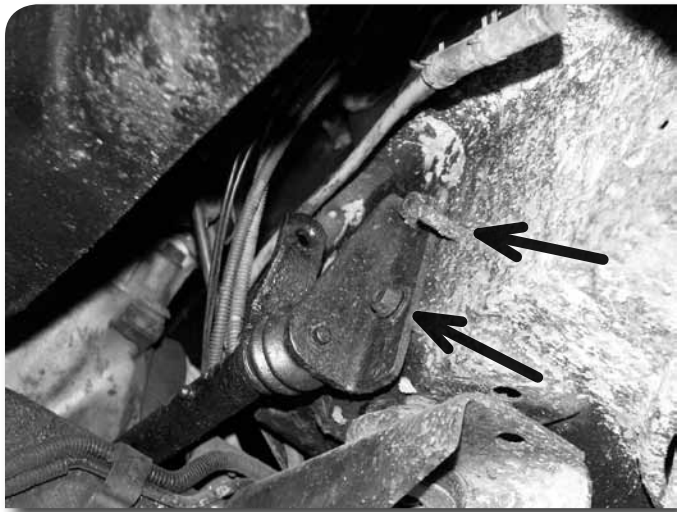

Figure 3
6. Remove and retain nuts holding clutch linkage bracket to firewall – Fig 3.